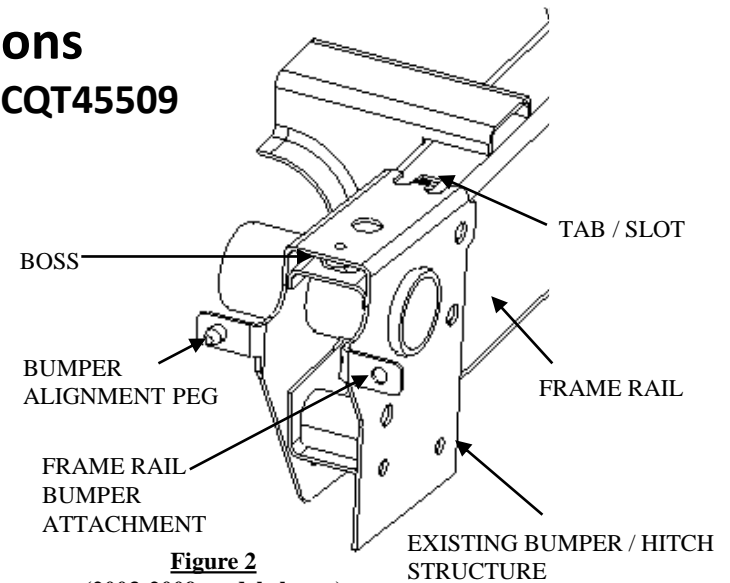

Figure 2
- The structure will need to be rotated up and pulled back to clear boss and tab / slot engagements. See figure 2.